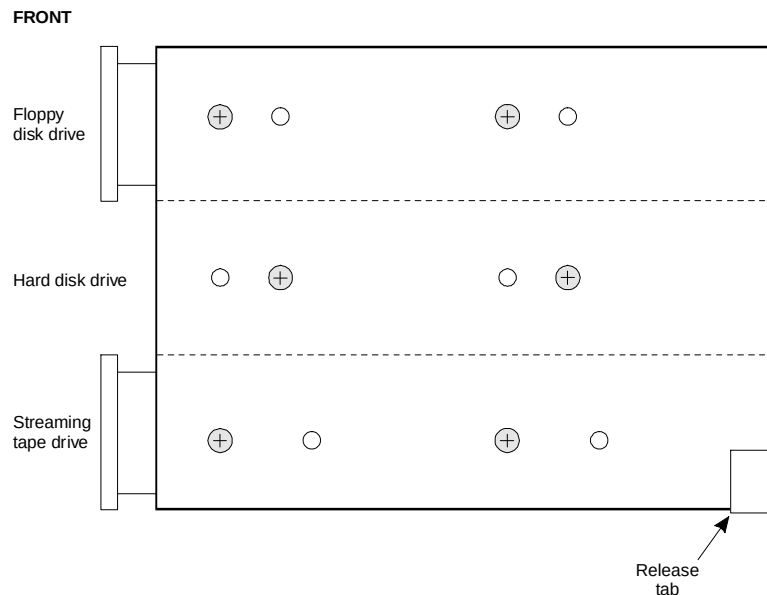

Figure C-16. Hard Disk Drive Tray Securing Screws
3. Remove the two screws on each side of the drive housing that secure the hard disk drive tray. Set screws aside to use again. See Figure C-16 below.